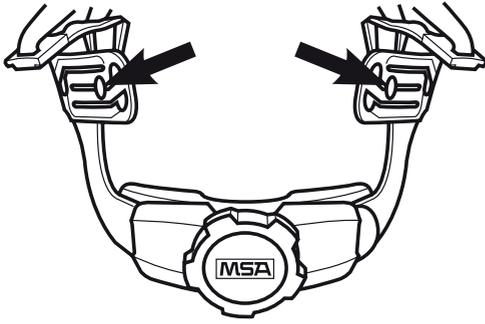

Fig. 1
3. To ensure that headband is compatible with head height and to get the preferred upward vision (change of vision angle), adjust the helmet wearing height if necessary by repositioning the headband clips within the suspensions as shown in Fig. 1.